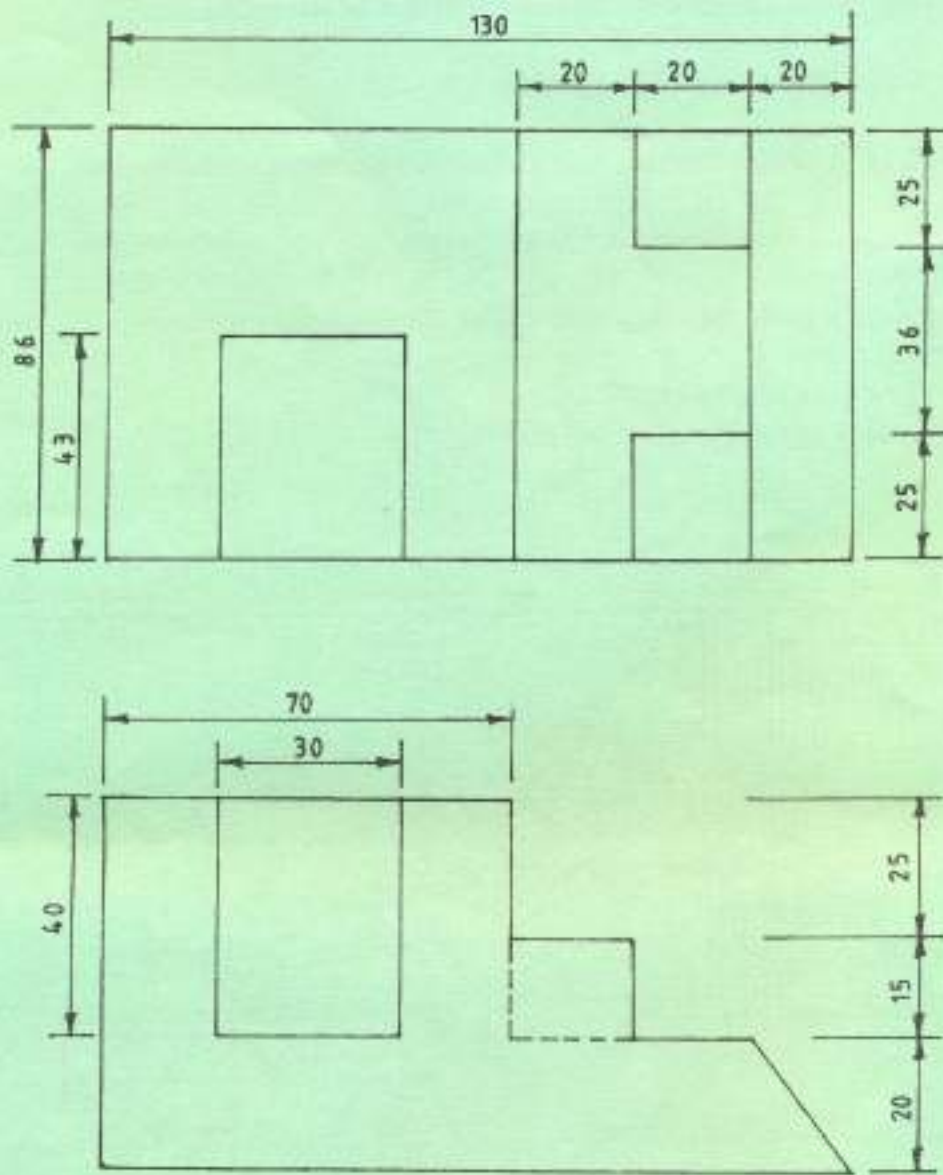

Fig.9
8. Figure 9 shows two views of a machine block drawn in third angle projection. Draw the block in oblique cabinet projection. (20 marks)